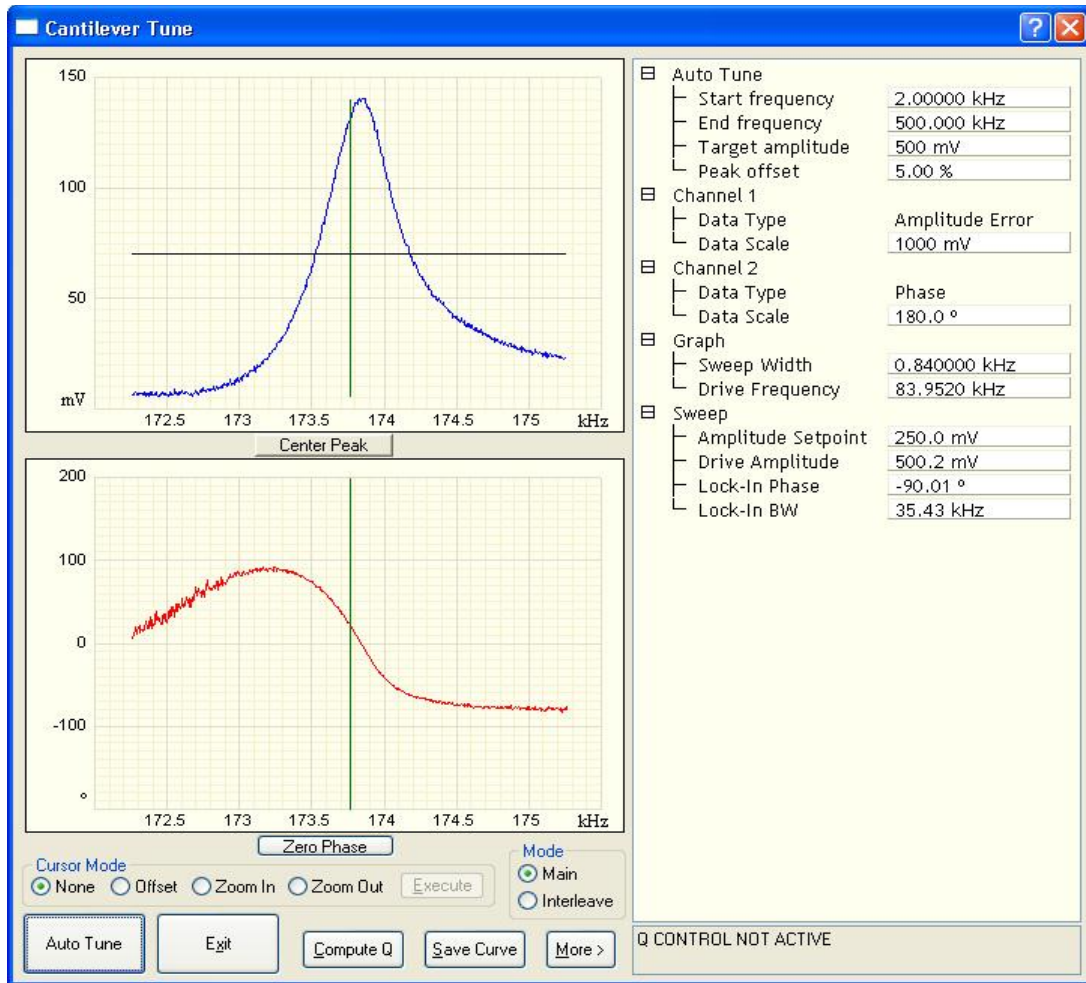

Figure 5. Auto tune control panel for AFM tapping (taken from Bruker manual)
- 8.** Tune the cantilever to find the resonance frequency of the probe. This is done by clicking the TUNE icon  in the Workflow Toolbar. Click **Auto Tune** to begin automatic tuning. A graph should appear with both amplitude and phase charts similar to Figure 5. Click **EXIT** after tuning.